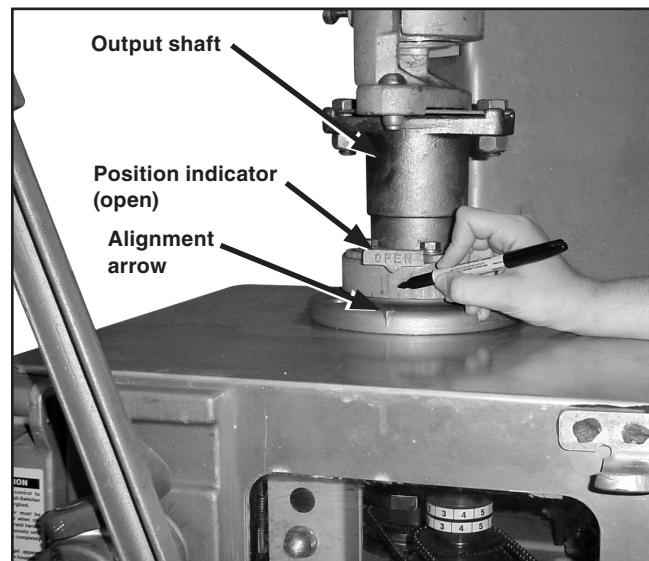

Figure 9. Adjust the position indicator. Mark the direction of operator rotation.
- STEP 2.** With the selector handle in the **Coupled** position, crank the circuit-switcher to the fully **Open** position and then to the fully **Closed** position, and in each position accurately align the mechanical circuit-switcher position indicators on the output-shaft collar of the switch operator with the alignment arrow. See Figure 9.